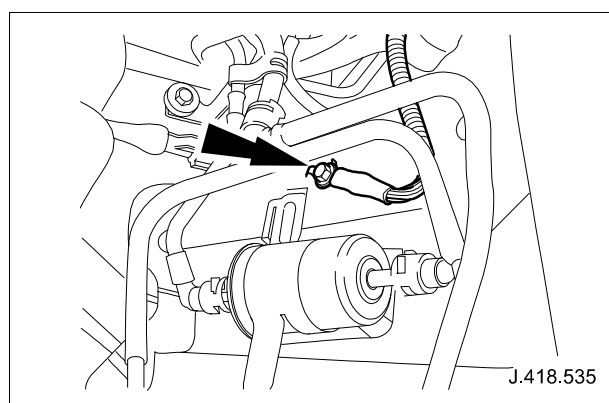

Fig. 23
- 5.1 Check ground point FH049 (located under front passenger side wheel arch liner), as shown in Fig. 23. (Torque tighten to 12Nm \pm 1.8Nm)